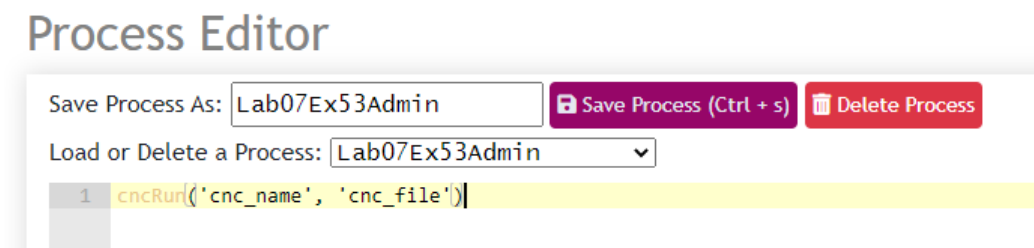

Figure 11: Process Editor with a cncRun task
6. As in Figure 11, begin entering a cncRun task. The first argument, according to the *README* is the 'cncName'; enter 'Cayenne' for this exercise.